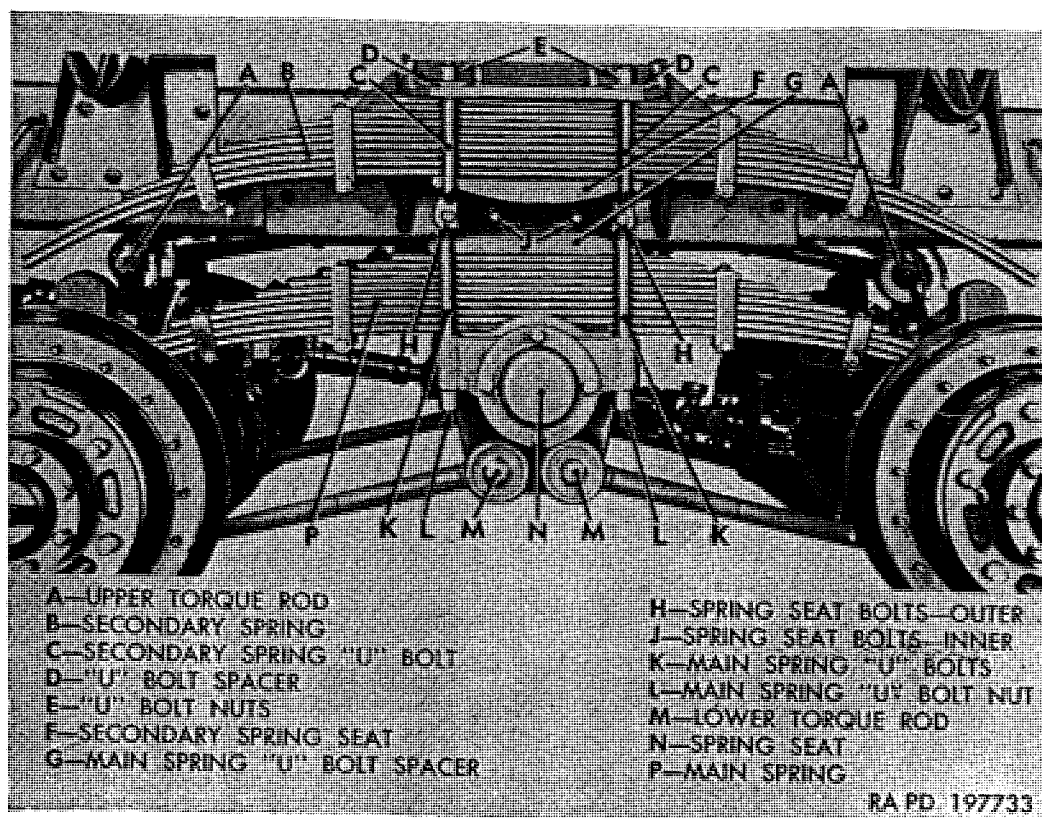
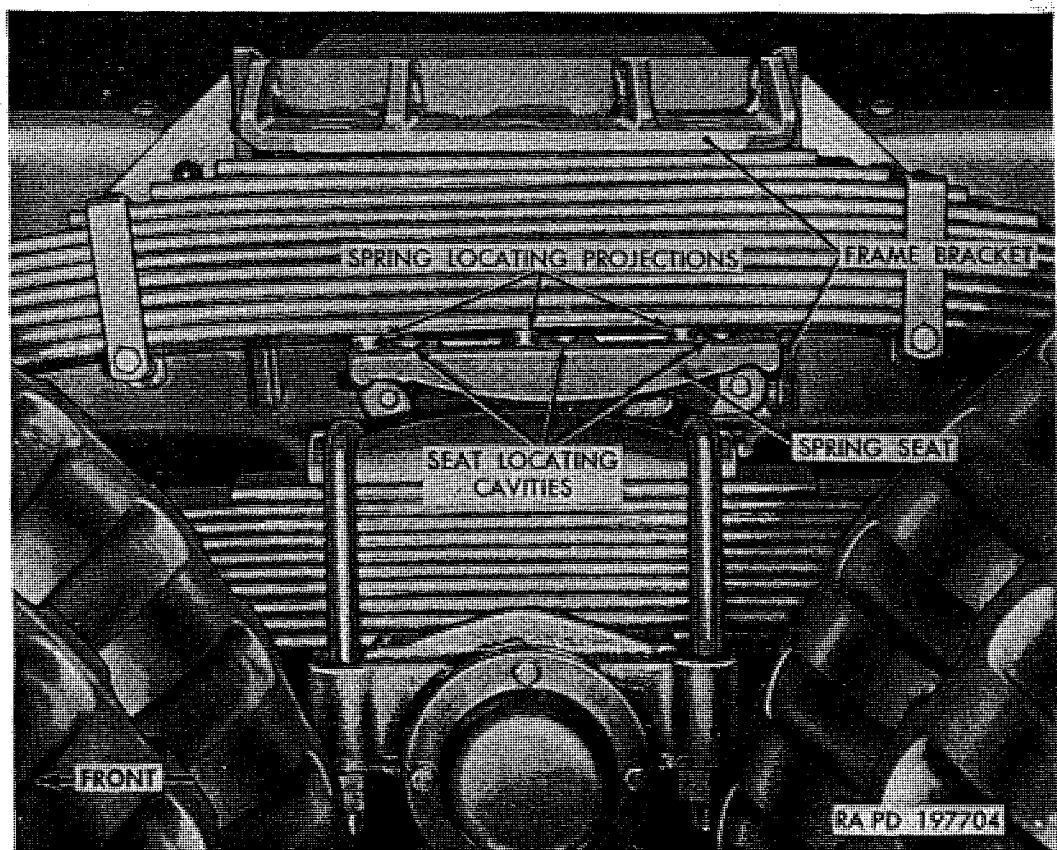
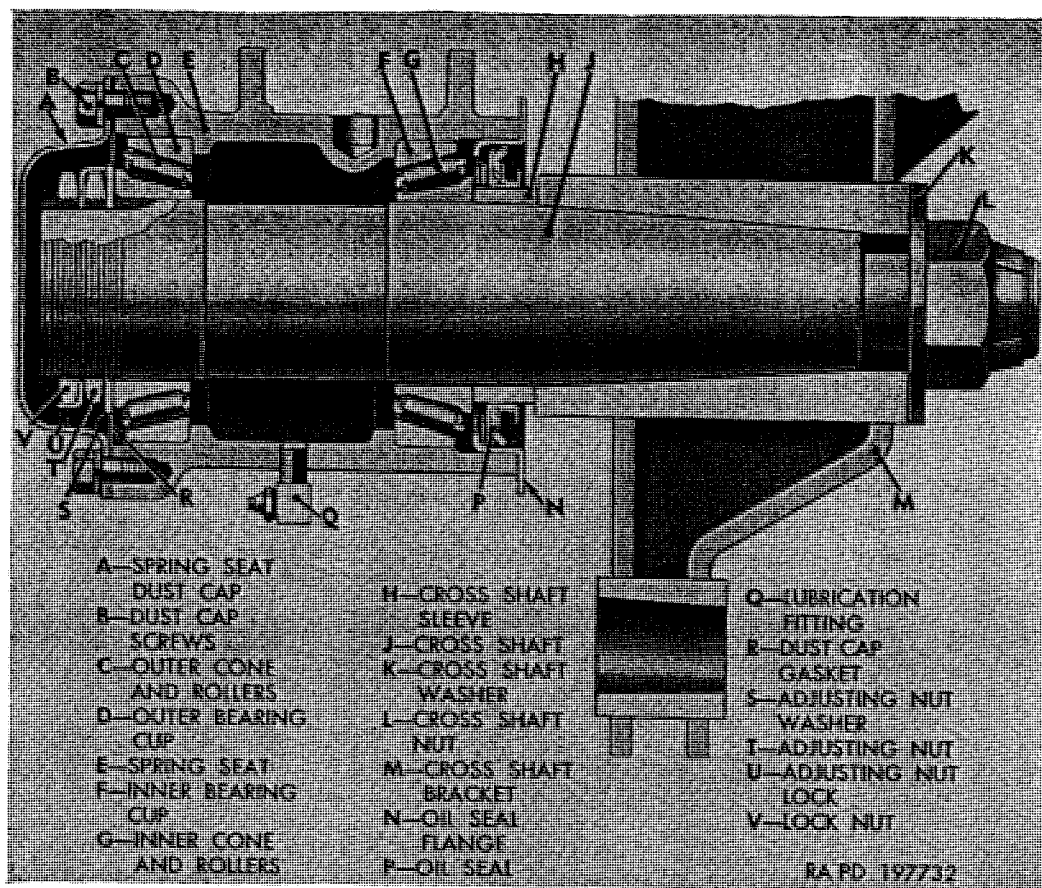

Figure 289. Rear springs and torque rods installed.
Figure 295. Secondary spring seat disconnected.
Figure 298. Rear spring seat—sectional view.
- (1) *General.* Rear spring suspension system components comprise the main spring assembly, main spring seat and bearings, secondary spring assembly, torque rod assemblies (fig. 289), and attaching parts.
- (2) *Main and secondary springs.* Main and secondary spring assemblies are identical. Each spring assembly consists of 10 spring leaves, secured together by a center bolt and four rebound clips. Main spring is mounted on spring seat which, in turn, is mounted on a shaft on opposed tapered roller bearings. Secondary spring is mounted rigidly to bracket on frame side rail. Slipper ends of main spring are inserted in brackets which are integral with axle housings; secondary spring ends contact top of brackets on axle housing under heavy load conditions.
- (3) *Main spring seat.* Main spring seat is mounted on tapered roller bearings on spring seat shaft. Tapered spring seat cross shaft is installed in spring seat and torque rod cross shaft bracket (M, fig. 298) and secured with a plain washer and safety nut. Outer end of shaft is threaded for bearing adjusting nuts, and grooved for tongue on adjusting nut lock. Spring seat inner oil seal, installed on spring seat shaft sleeve, wipes on inside of seal flange which is pressed into inner end of seat.
- (4) *Torque rods.* Six torque rod assemblies, two upper and four lower, transmit driving and braking forces of the two rear axles to the frame. Both ends of all rear torque rods are equipped with tapered end pins. Brake and vent line shield is welded to top of each upper torque rod.
- (1) Apply parking brake or block wheels to prevent accidental movement of vehicle while spring is being removed and installed.
- (2) On side being serviced, place jack under frame bracket assembly; then jack up bracket until tension is relieved from main spring. Remove main spring U-bolt nuts (L, fig. 289).
- (1) Loosen secondary spring U-bolt nuts (E, fig. 289).
- (2) Remove four nuts and bolts (H and J, fig. 289) attaching secondary spring seat to frame bracket.
- (3) Support spring by blocking between ends of spring and spring guide brackets on axle housings.
- (4) Remove U-bolt nuts, spacers, and U-bolts.
- (5) With spring held up against frame bracket (fig. 295) lower spring seat until locating cavities in spring seat clear the locating projections on spring leaf; then slide spring seat to rear until it contacts flange of frame bracket.
correctly positioned, spring and spring seat will roll into position in frame bracket (fig. 295).
- (4) With spring center bolt located in drilled locating hole in frame bracket, hold top of spring against bracket by blocking between spring ends and spring guide brackets on axle housing.
- (5) Move spring seat forward under spring until locating projections on spring leaf mate with locating cavities in spring seat.
- (6) Install U-bolts with two spacers and four nuts. Do not tighten U-bolt nuts at this time.
- (7) Align spring seat bolt holes with bolt holes in frame bracket. Install two $\frac{7}{16}$ -20 x $2\frac{1}{4}$ inner spring seat bolts (J, fig. 289) in inner bolt holes, and two $\frac{7}{16}$ -20 x 2 outer spring seat bolts (H, fig. 289) in two outside bolt holes. Install four $\frac{7}{16}$ -20 safety nuts and tighten to 33 to 43 pound-feet torque.
- (8) Tighten U-bolt nuts to 375 to 400 pound-feet torque. Remove blocks from between ends of spring and spring guide brackets.
(fig. 298)